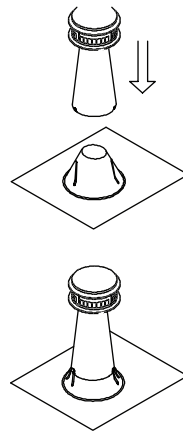

Figure 15
**1. Description.** The Combination Cap, provides an easily installed, safe and efficient B-Vent Cap and Flashing, as one lightweight unit. The two basic components and the assembled unit are shown in *Figure 15*. The Combination Cap is designed to accommodate roof pitches from flat to 6/12, and is available for 3" through 6" diameter B-Vent pipe.